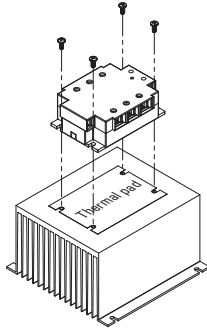

fig. 1 GN3 Series SSR mounted on HS053 heat sink
- The SSR mounting slots have a diameter of 0.2 in (5.0 mm). Four screws are needed (not included) to mount the SSR onto heat sink (See fig. 1). Choose screw length considering the mounting surface and that the baseplate thickness is 0.125 in (3.2 mm).